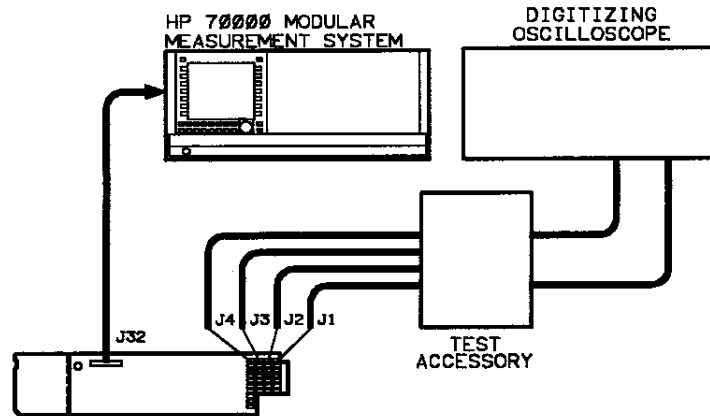

Figure 8-3. Pulse Parameters Test Setup
2. Connect the equipment as shown in Figure 8-3. Connect to J1, J2, J3, J4 if using an external driver card. Connect to cable (HP part number 70611-60004) if using an HP 70611A, Option 001, 70612A,C or 70613A,C.